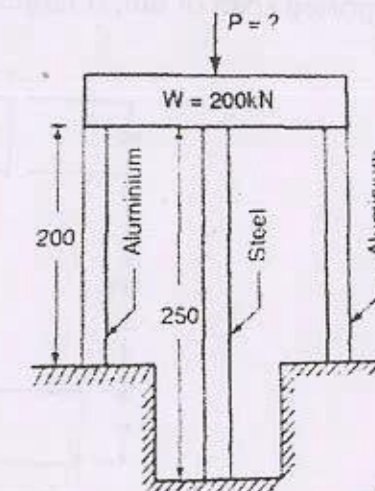

Fig.1
- Q1) a) Three pillars two of aluminum and one of steel support a rigid platform of 200 kN as shown in the fig.1. If area of each aluminum pillar is 1000 mm^2 and that of steel pillar is 800 mm^2 , find the stresses developed in each pillar.